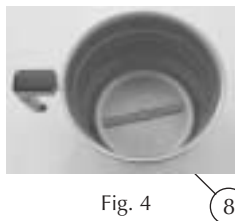

Fig. 4
2. insert all 6 small saucepans complete with anchors for agitation (the anchors must be placed in the central axis of the small saucepans - see detail 8, Fig. 4), together with an adequate quantity of colouring solution (the collar present on each small saucepan indicates a quantity of liquid equivalent to 1 litre). Place the respective lids;
3. set the thermostat (3), positioning indicator between values 8 and 8.5 (N.B. it is possible that it will be necessary to vary the value indicated above - regulation of thermostat - according to the environmental temperature. The data supplied by GFC are only indicative for an environmental temperature of 25° C;
4. set the timer (4) at the bottom of the scale (time equivalent to 1 hour);
5. turn on the instrument by placing general switch on ON position (1), together with start-up switch of agitator (2);